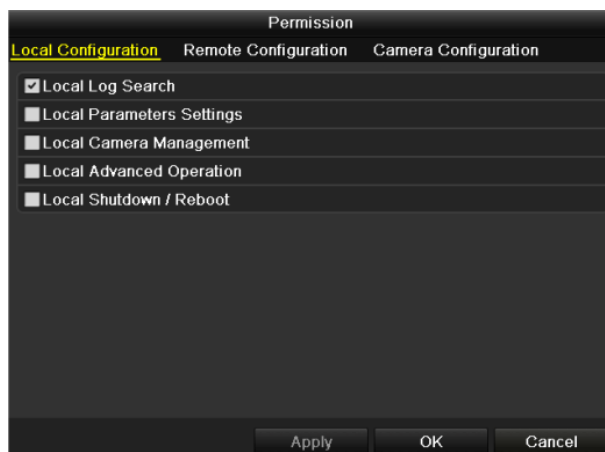

Figure 17-9 User Permission Settings Interface
Step 5 Select the user from the list and then click the button to enter the Permission settings interface, as shown in Figure 17-9.